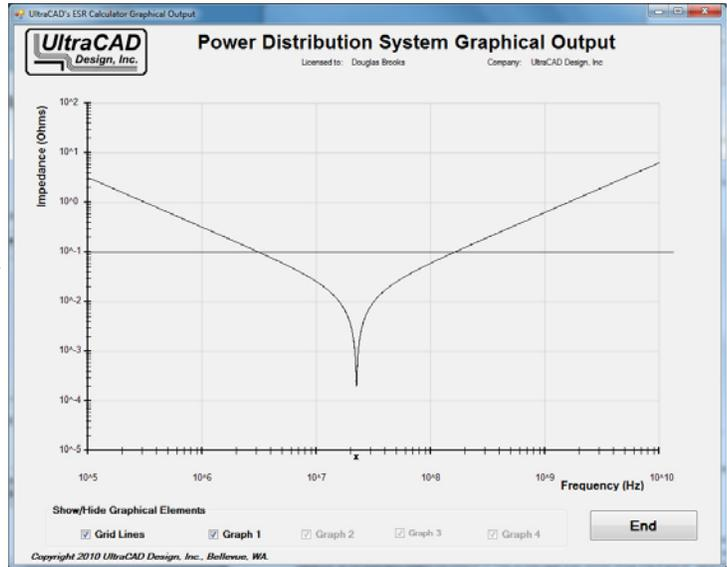

Figure 2
Let’s look at some possible PDS configurations. Figure 2 shows an impedance curve for a system with 50 each .01 uF capacitors. In the real world, capacitors (and their mounting) have some inductance associated with them, so let’s assume for this illustration that the associated inductance with each one is 5.0 nH. And, capacitors have some ESR associated with them, so let’s also assume that the ESR for each capacitor is
0.01 Ohms. Those are the assumptions behind the curve in Figure 2. As a matter of reference, a horizontal line is drawn on the curve at 0.1 Ohms impedance.
where C = 0.01 uF and L = 5.0 nH. Each capacitor, along with its associated inductance, forms a series LC circuit. LC circuits have a self-resonant frequency as specified in Equation 1. The impedance of each such capacitor at its resonant frequency is equal to ESR, in this case 0.01 Ohms. Since there are 50 capacitors in parallel in this design, the net impedance at the self-resonant point is 0.01/50 = 0.0002 Ohms, as shown in Figure 2.
The calculator can be used in two modes, (a) Use internally defined values, and (b) Input values from file. The first is useful for experimenting with various options --- number of capacitor values, values for capacitance and inductance, impact of ESR, etc. --- and seeing what the impact is on overall impedance. Figures 2 and 3 were generated using this function. The second allows the user to enter data that represents his/her actual PDS. The calculator will then generate an impedance curve that represents that data.